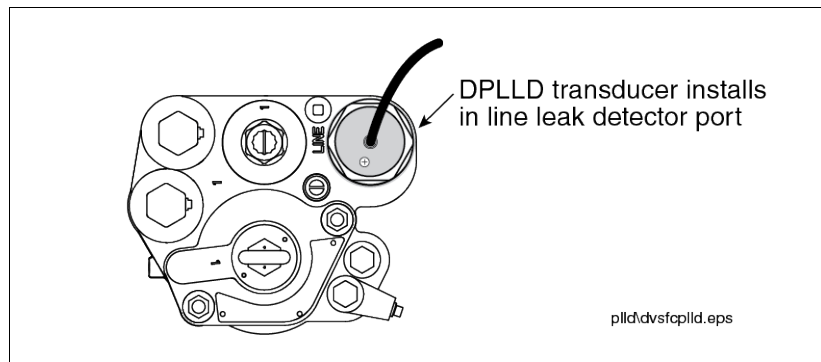

Figure 12. Locating Discharge Port Plug For Line Leak Transducer
- If the pump does not have a Stage II vapor recovery device installed in the pressurized piping, remove the 2" NPT plug from line leak detector port. Install the DPLLD transducer into the 2" NPT port (see Figure 12).